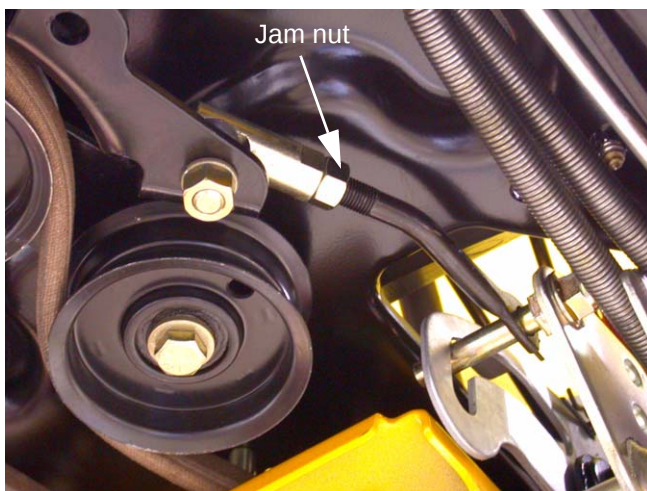

Figure 18.14
18.14. Loosen the jam nut that locks the speed control rod into the rod-end joint at the double idler bracket with a pair of 9/16" wrenches. See Figure 18.14.